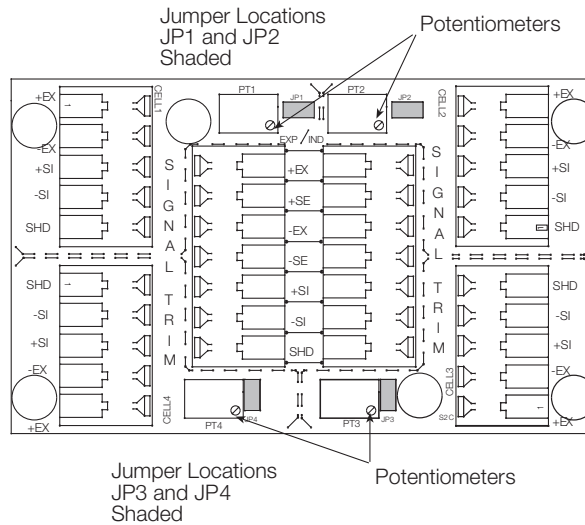

Figure 3-5. Trim Potentiometers
Before the scale can be calibrated, all load cells must be balanced and responding to loading equally by adjusting the balance trimmers. The balance trimmers are located on the junction box (see Figure 3-5). Use the following procedure to balance the load cells.
- With no weight on the scale, zero the indicator. Then turn all four potentiometers (shown in Figure 3-5) to increase the reading until a clicking sound is heard from each potentiometer. This ensures the maximum signal from each load cell.